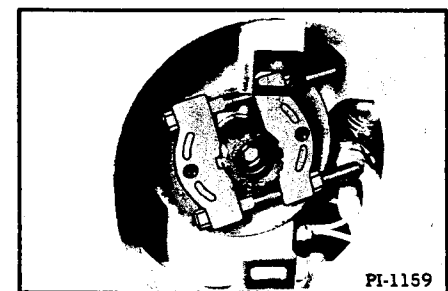

Fig. 60 Mount Puller on Sheave Half
4. Mount a puller on the sheave half (Figure 60) behind the cap screws.
2. Install a bearing puller (Figure 60), tightening the puller firmly behind the keys.